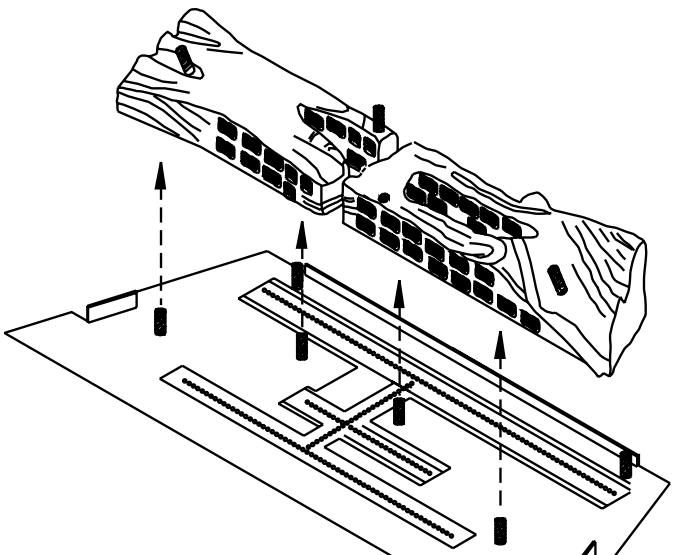

Figure 11
4) Rotate the right front log (3018 is cast into its bottom surface) so the black charred surface is toward the front. Place this log so the two holes in its bottom surface slide onto the two pegs on the right side of the air control panel. See **Figure 11**.
5) Rotate the left front log (3017 is cast into its bottom surface) so the black charred surface is toward the front and place it on the pegs protruding from the left side of the air control panel as shown in **Figure 11**.